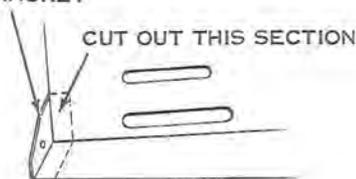

Figure 9-36
- f. With a fine hacksaw, cut out section (approximately  $7/8$  inch x  $2-1/2$  inch) in rear corners of frame (see Figure 9-36) to remove adjusting bracket.